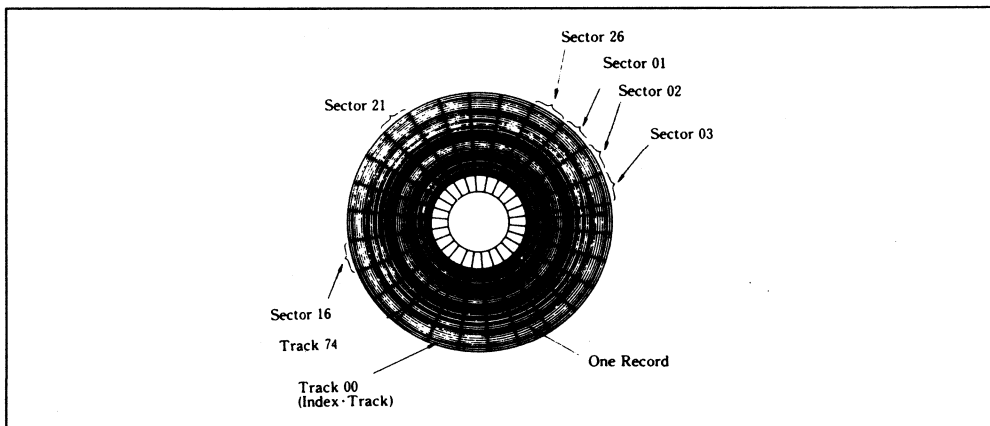

Figure 7-5 Floppy Disk Format
1. Use the following type of floppy disk (Figure 7-5):